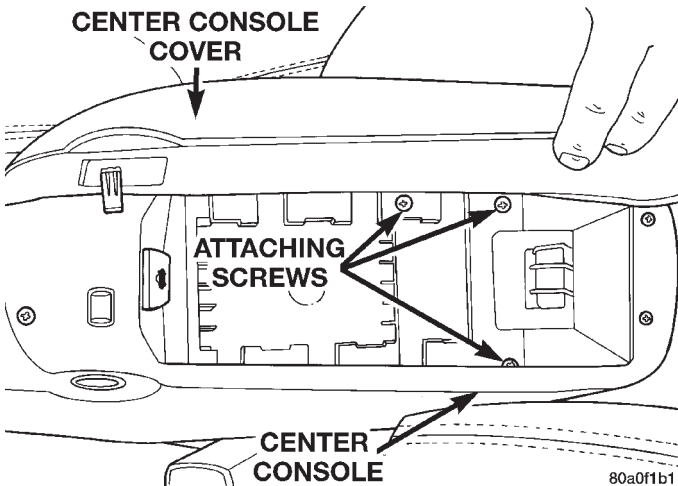

Fig. 121 Center Console Rear Attaching Screws
(2) Remove the 3 screws (Fig. 121) attaching the rear of the center console to the console bracket.
(3) Remove the shift range indicator from the center console. The shift range indicator is attached to
(12) Install the 3 screws attaching the rear of the console to the console bracket (Fig. 121).